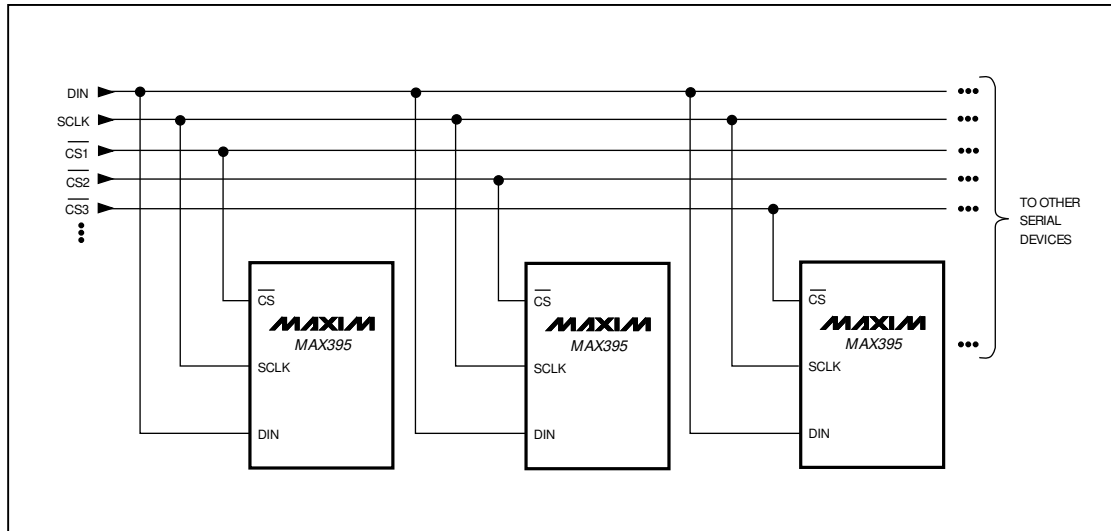

Figure 6. Addressable Serial Interface
**Note 6:** See Figure 6. Off isolation =  $20 \log_{10} V_{COM}/V_{NO}$ , VCOM = output. NO = input to off switch.